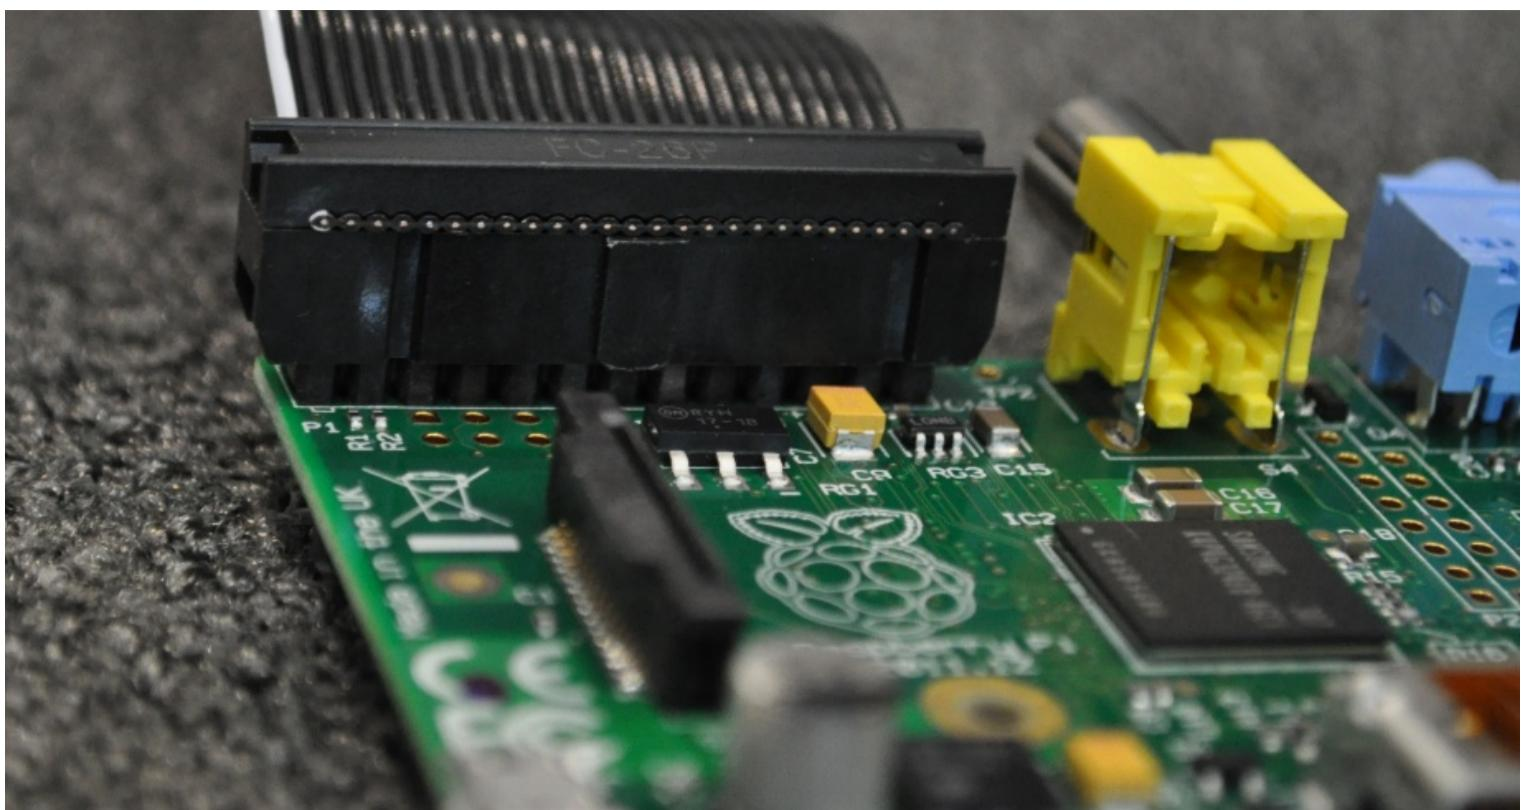

Figure 1-8. Close-up of a properly connected Cobbler ribbon cable
- Both ends of the ribbon cable have a notched connector. The notch on the connector going to the Pi should be pointed *toward* the Raspberry Pi logo on the board, as shown in Figure 1-8, never away from it.